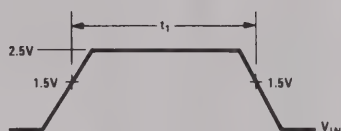

Figure 1
4. Set-up time( $t_1$ ) for input trigger pulse  $> 40$  ns. (See Figure 1)